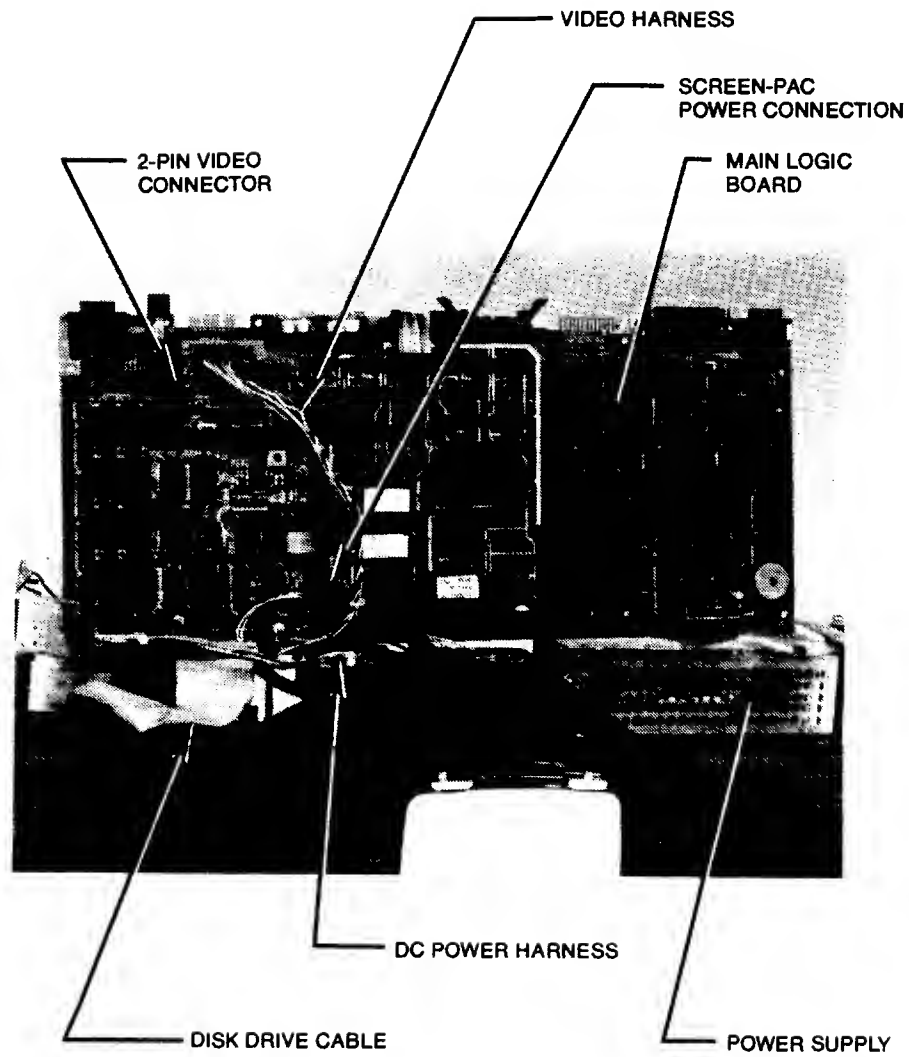

FIGURE 6-36. HARNESS RECONNECTION
- 6.12.6.1 Reassemble the logic board (see Section 6.2.5 or 6.8.5). Connect the internal video harness to position P2 on the SCREEN-PAC PC board (Figure 6-36).